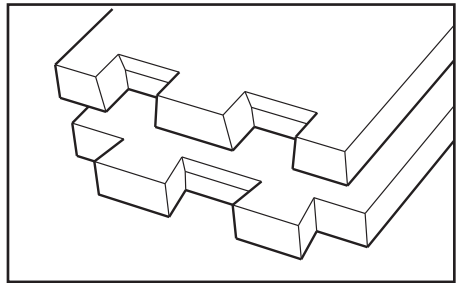

Figure 19: Finished pin and tail boards.
20. Flip the board over and repeat for the other side as shown in **Figures 18a** and **18b**. Do the same for all pin and tail boards. The finished cuts should look as shown in **Figure 19**.